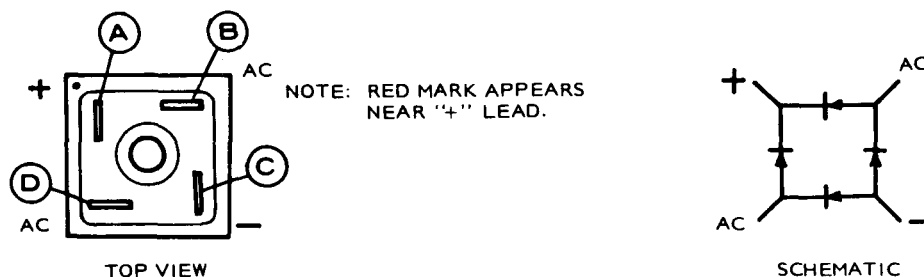

FIGURE 55. TESTING BRIDGE RECTIFIER
5. Now place meter leads on points shown in Figure 55 and note readings from Table below.